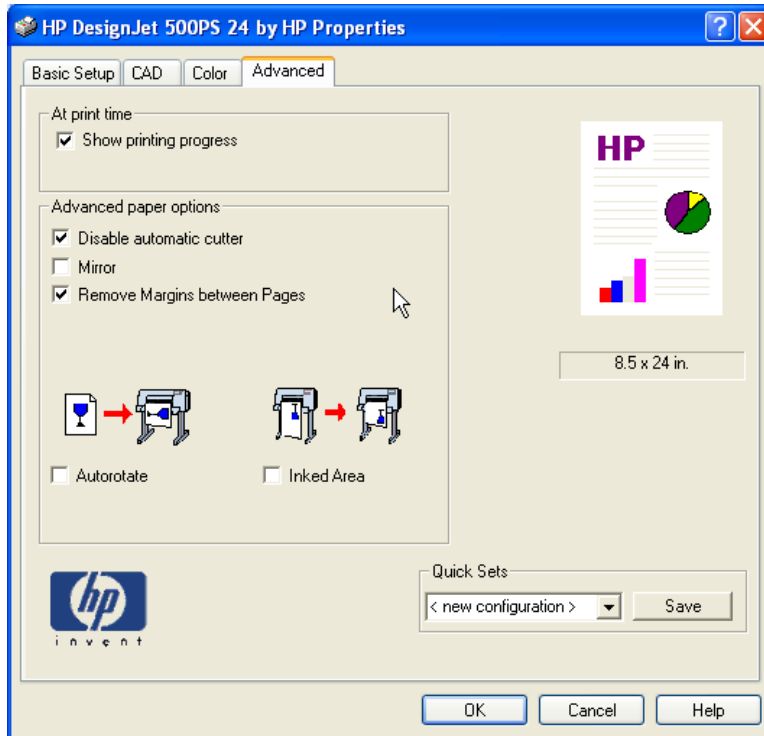
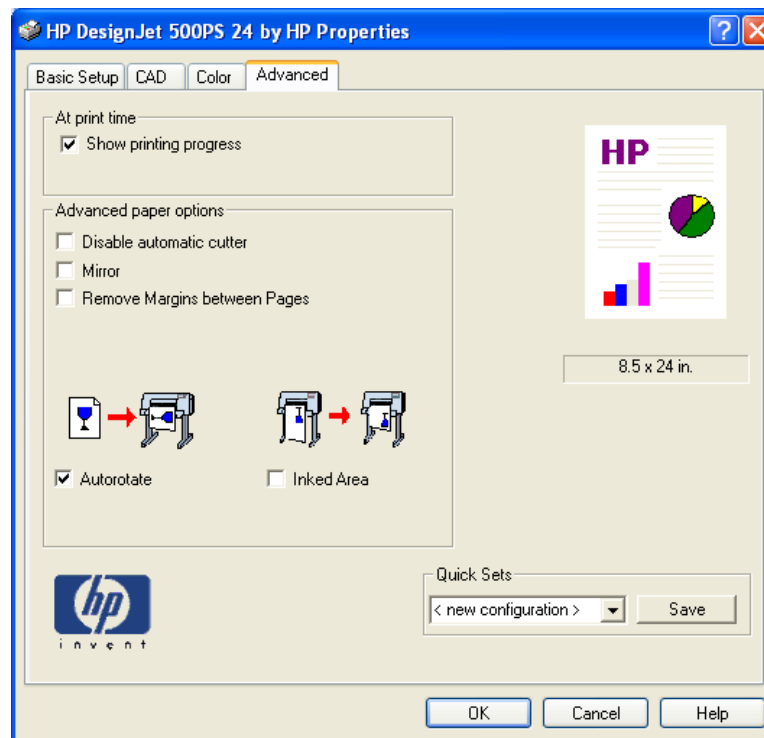

Figure 1
Figure 2
- 9.) Power\*Log printing (portrait page orientation). **If you are printing from Power\*Curve (horz logs) proceed to Step 10** Now click on the **Advanced** tab to define the final output of your log. There are several things you can do here. Disable the cutters for a vertical log and remove the page margins to print a continuous log and waste a log of paper. **Figure 1** Or auto rotate the image, enable the cutters and do not remove the page margins to save paper **Figure 2**. Proceed to Step 11